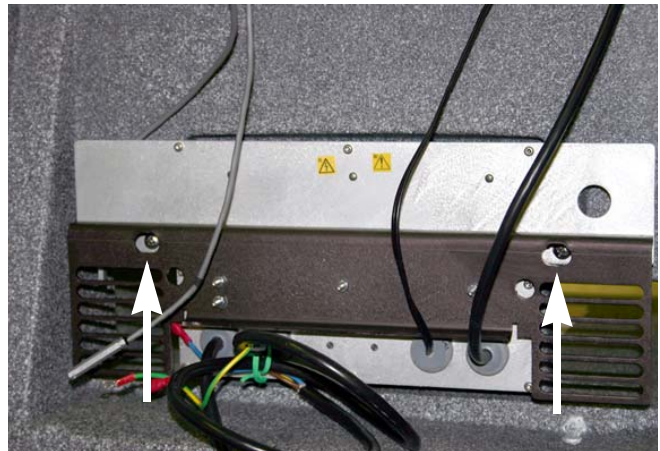

Figure 34: Power supply back plate
14. Inserting the screwdriver through the holes in the heater plate, remove the two Phillips screws from the power supply back plate and remove the power supply (Figure 34).